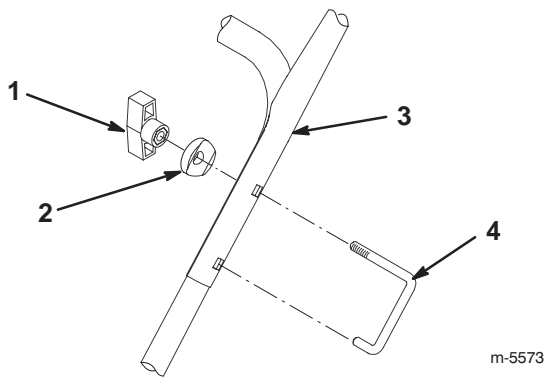

Figure 6
3. Loosely install the handle locks, curved washers, and knobs as shown in Figure 6.
5. Fully insert the handle locks (Fig. 6).